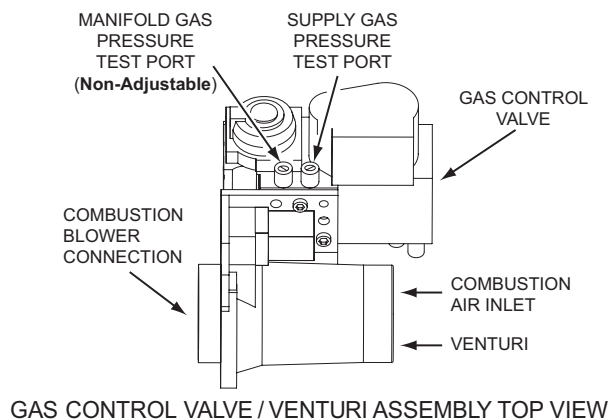
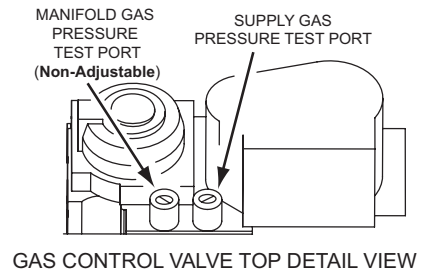

Figure 41
Figure 42
4. Wait five (5) minutes for any residual gas to clear.
5. Connect the manometer to the supply gas pressure port on the gas control valve, see Figure 41 and Figure 42.
On the water heaters covered by this manual there are test ports for supply and manifold gas pressure readings on the gas control valve. Using a small flat tip pocket screw driver - open the needle valve inside the supply gas pressure test port one full turn only; turn the needle valve screw counter-clockwise to open the valve. Slide the manometer sensing tube over the top of the test port, see Figure 41 and Figure 42.